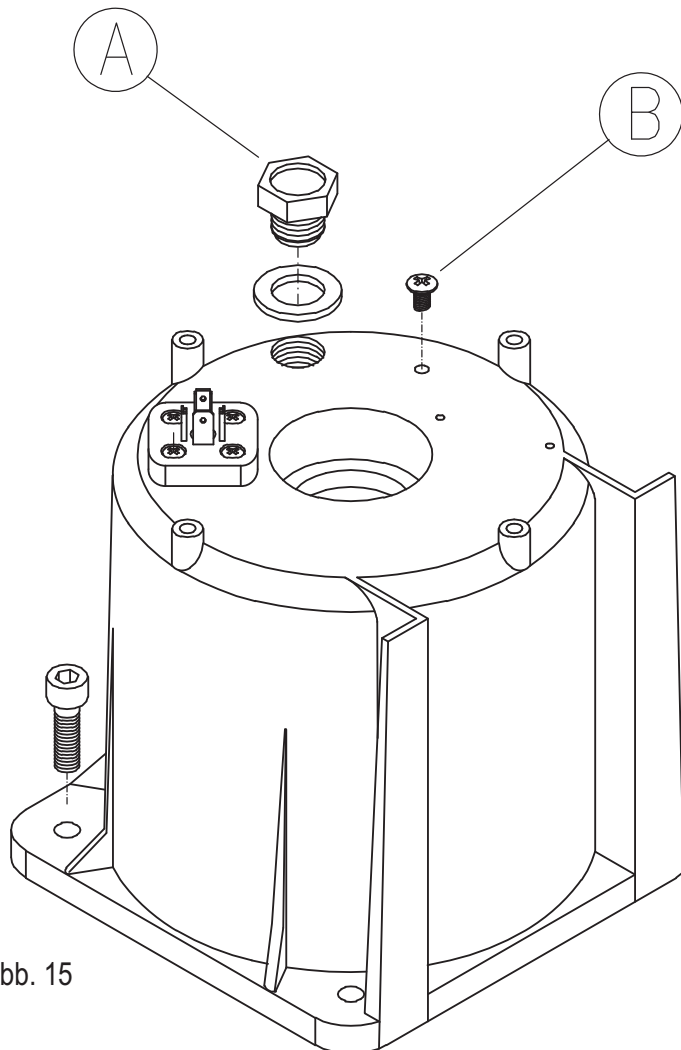

Fig. 15 - Abb. 15
3. Enlever le bouchon de l'huile (détail A - fig. 15).
3. saque el tapón del aceite (part. A de la fig. 15);
**Bleed screw:** Once installation has been completed, slacken the bleed screw indicated in figure 15 detail B.
3. Remove the oil plug (detail A of fig 15).